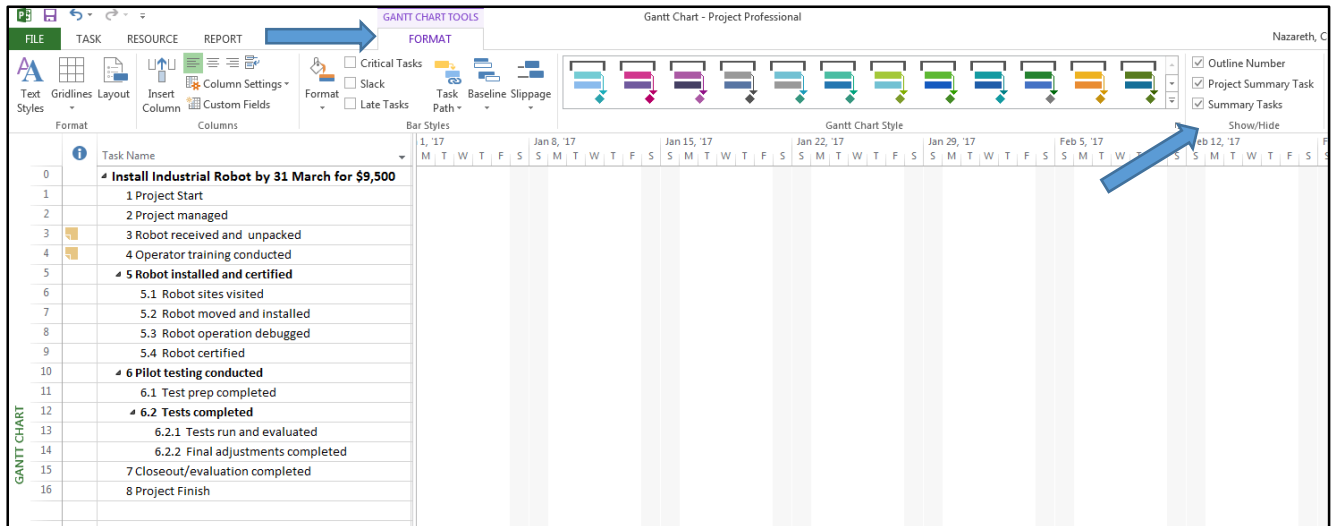

Figure 4B
- To add WBS codes to the task list, select all the tasks in the Task Name column. Then right click and select Insert Column. Type WBS in the [Type Column Name] or select WBS from the dropdown menu. **OR** if you do not want to insert a WBS column, on the Format tab's Show/Hide section, click Outline Number and the numbers will appear next to the tasks (Figure 4B).